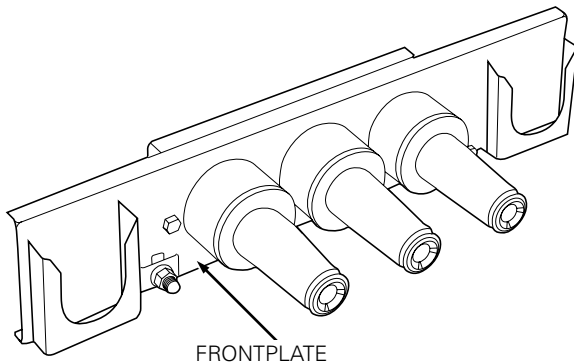

Figure 1. Loadbreak junction assembled to frontplate.
- Loadbreak Junction with Frontplate (assembled). See Figure 1.